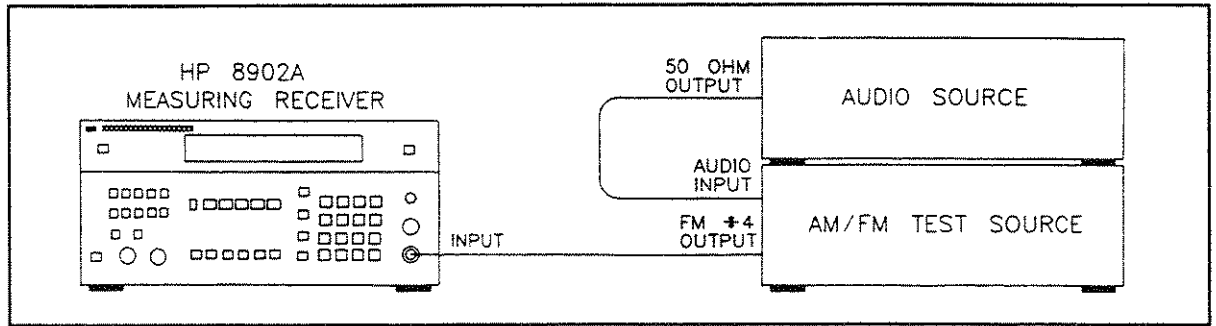

Figure 4-10. Measuring Receiver Incidental AM Verification Test Setup
a. Connect the FM divide-by-4 output of the AM/FM test source to the input of the measuring receiver and the 50 ohm output of the test oscillator to the audio input of the AM/FM test source, as shown in Figure 4-10.